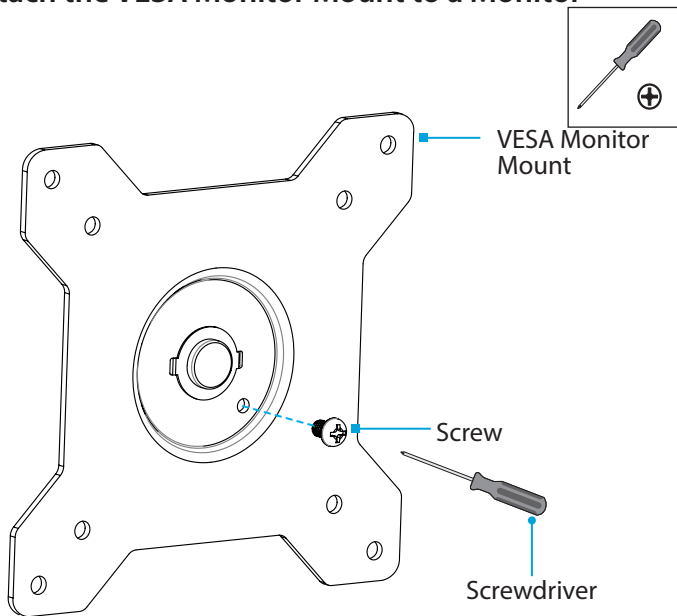

Figure 18
1. To enable 360 degree rotation of the **Monitor**, remove the **Screw**, located in the face of the **VESA Monitor Mount**, using a **Phillips Head Screwdriver**. (Figure 18)